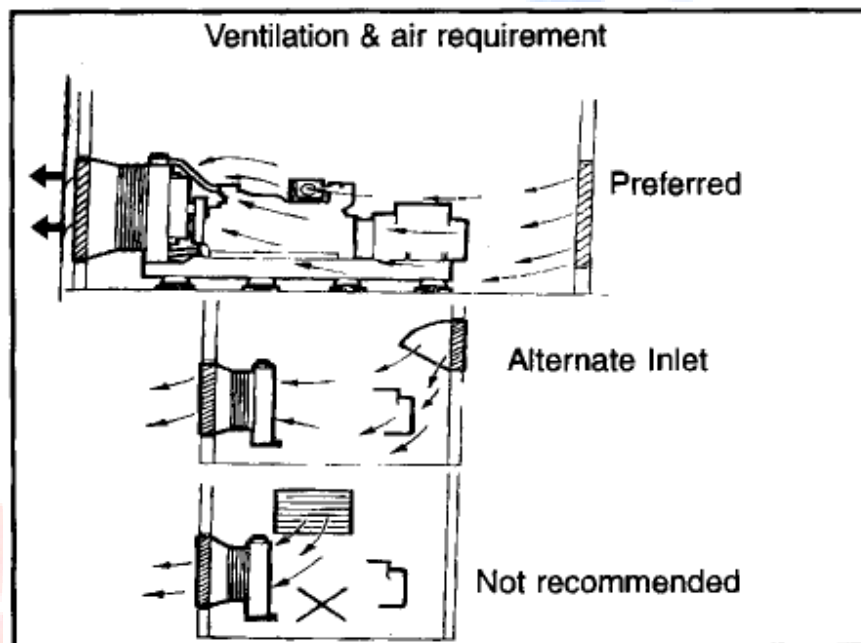

figure 4-2
- Cross ventilation and free flow of cool, clean and fresh air is must for satisfactory operation of DG set. Air should flow from alternator end to engine.(figure 4-2)